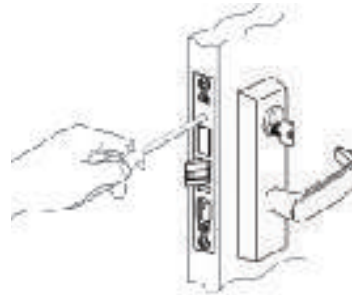

Figure 9
4. Secure the outside front plate to the lockbody. (Figure 9)